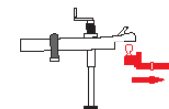

Figure 34
9. Pull your tow vehicle away slowly, lock your trailer coupler and you are done. (Figure 34)